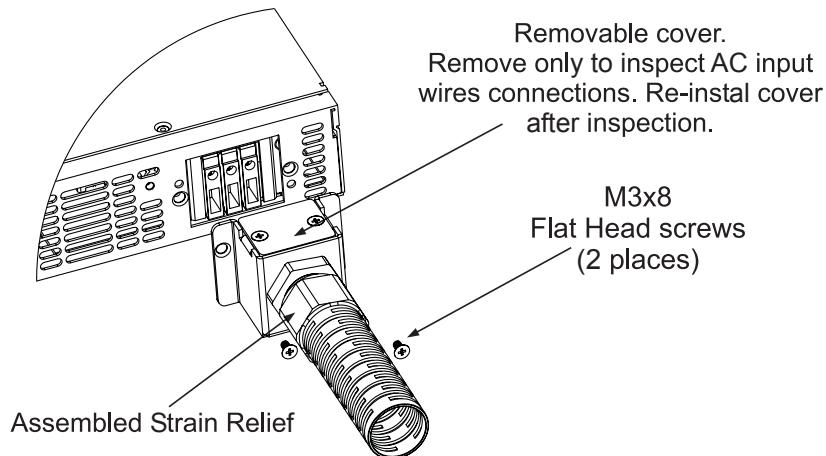

Fig.3-3: AC input cover and strain relief, 2400W models
5. Route the wires inside the cover to prevent pinching. Fasten the cover to the unit using the M3x8 Flat Head screws are provided. Strain relief cover could be opened for inspection. Refer to Fig.3-3 for details.